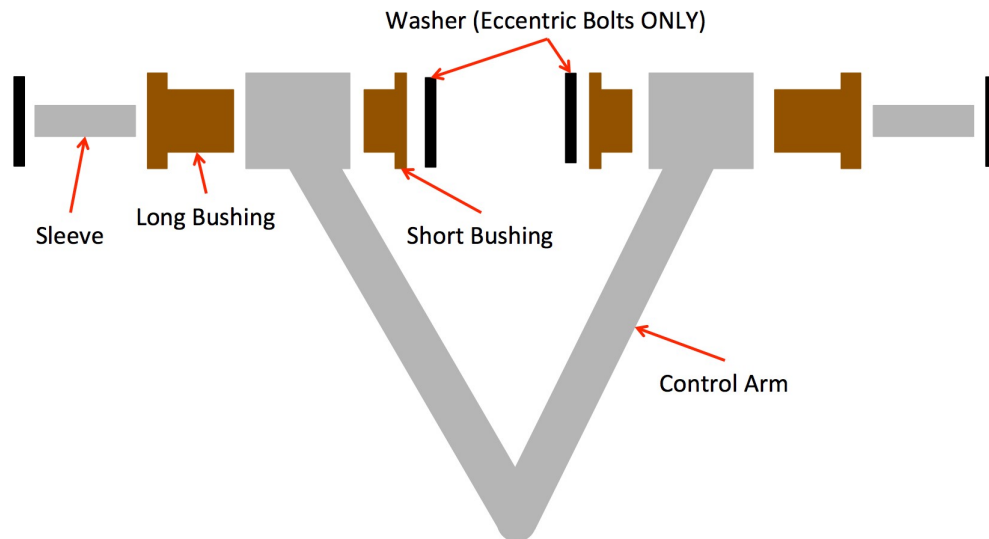

Figure 8. Assembly diagram of bushings.
1. Each bushing is made in two halves, with each half being a different overall length. The longer of the two bushing halves must be installed from the outside of the control arm, while the thin half of the bushing must be installed from the inside of the control arm. Please reference Figure 8 for a diagram of this orientation. All lower control arm positions require washers.
2. Using the location of the bushing in the packaging (Figure 1) and referencing Figure 8, press each bushing into the appropriate location. Some bushings may require moderate force to install, but should not need a press. A bench vise or c-clamp can be used to fully seat the bushing in the control arms.